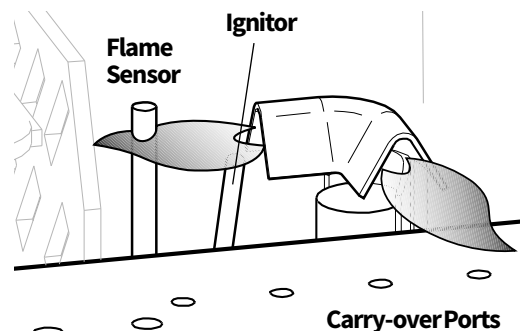

Figure 33. Correct Pilot flame pattern.
5. **PILOT FLAME:** The pilot flame should be steady -not lifting or floating. The flame should be blue in color around the pilot hood, with traces of yellow toward the outer edges. It is important that the pilot flame engulf the top 1/8" of the flame sensor. The pilot flame should project out of the pilot hood 1" from both ports extending to reach the burner plate ports. See fig. 33. The pilot flame can be tuned by turning the adjustment screw located on the front of the valve. See fig. 20.